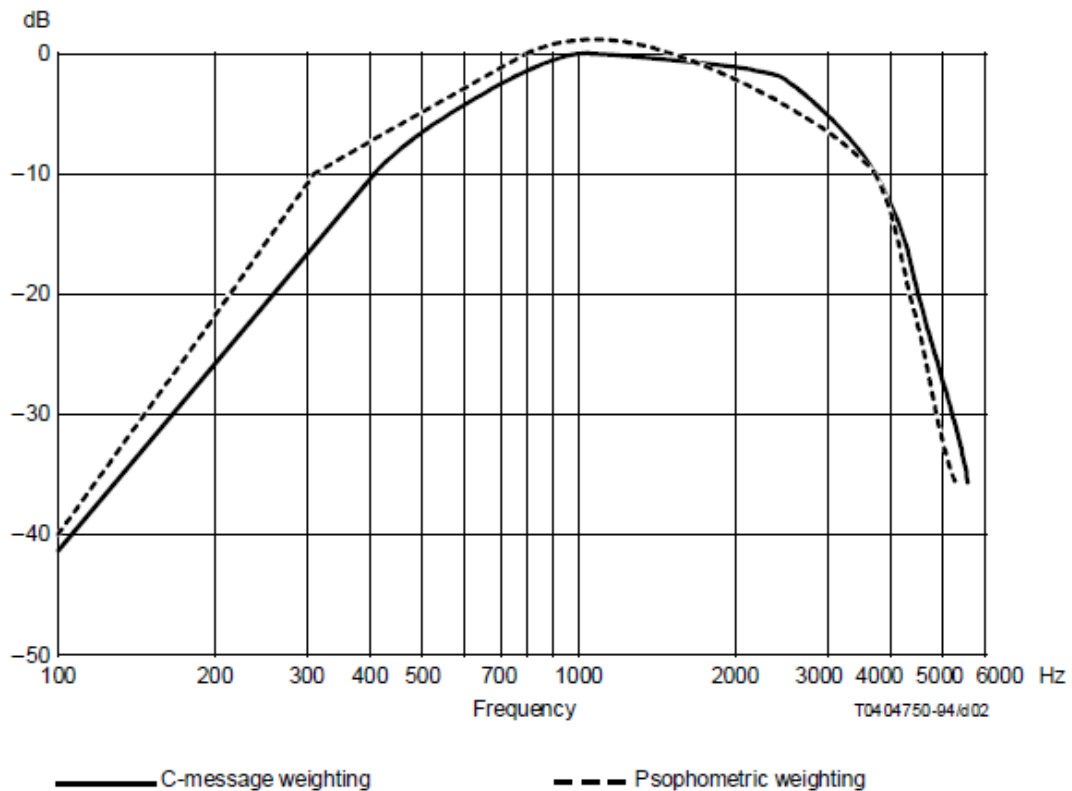

Fig. 7.104: Adding Auto and Cross-correlation
Clicking on “+” in the channel list opens the window for selecting the different math functions. Under the basic math functions there is the option to add a correlation (see Fig. 7.104). It is possible to choose between an Auto or a Cross-correlation. Then press the “Add” button in the bottom right corner of the window and a new correlation channel will automatically be added to the channel list under the specified group name (see ③ in Fig. 7.104).
The Auto-correlation (see ① in Fig. 7.104) mathematically describes the convolution of a signal with itself and is used to detect periodicity in signals, e.g. in modulated and noisy signals.
The Cross-correlation (see ② in Fig. 7.104) mathematically describes the convolution of a signal x with another signal y . The Cross-correlation is used e.g. to detect identical components in 2 different signals or to analyze the delay time between 2 signals.